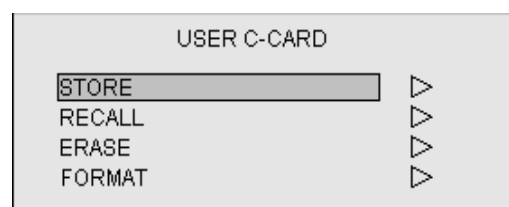

Fig 6.67 USER C-Card MENU
- (4) Move the Joystick up or down to highlight STORE and press the Joystick to the right to enter the item selection menu. (Figure 6.67)